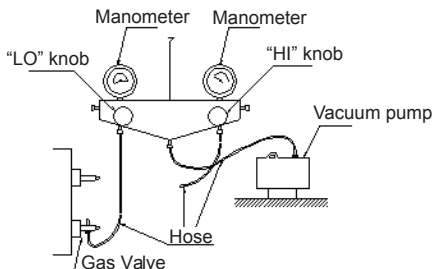

Fig.9
- 3) As shown in the following figure (Fig.9), expel the gas inside the indoor unit and refrigerant pipe out by the vacuum pump.